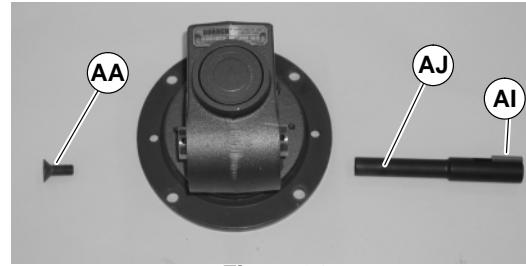

Figure 21
- Remove two (2) screws (AG) and detach output shaft cover (AH).
- Remove M10 shaft locking screw (AA of Figure 21), remove gear reducer output shaft (AJ) and key (AI).
- Insert the new shaft with key (AI of Figure 21) into new gear reducer. Tighten M10 shaft locking screw (AK) to 300 in-lbs (34 N-m).
NOTE: Output shaft (AJ of Figure 21) is held in Gear Reducer with a tapered press fit. Removal may require use of an arbor press.